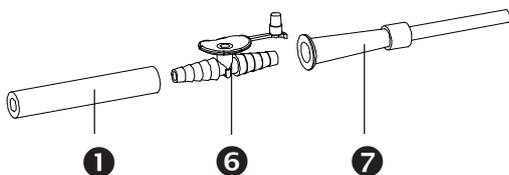

Fig. 9.
⑥, Fig. 9 Hose connector (finger tip), sterile, 1 pcs.	000.0347.0
⑥, Fig. 9 Hose connector (finger tip), sterile, 100 pcs.	000.0347.1